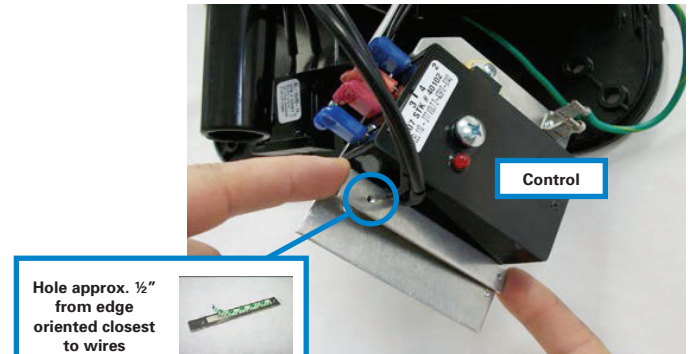

Figure 11
8. Locate the Control Adapter Plate (C) and peel the tape backing off. Place it over the **slotted and elongated holes** on the bracket so that the hole that is  $\frac{1}{2}$ " from the edge of the Control Adapter Plate (C) is placed closest to the wire connections (**Figure 11**). Press the Adapter plate firmly into place flush against the Control.